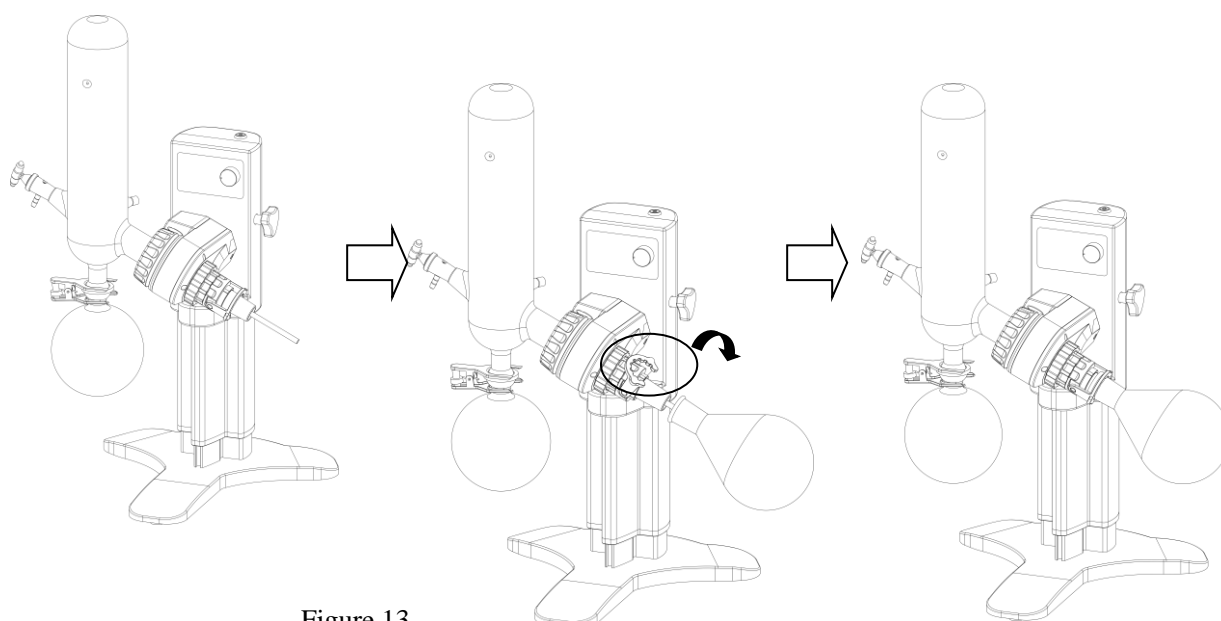

Figure 13
(5) Insert the PTFE tube (Figure 7 (8)) into the lower port of the feeding valve (Figure 7 (7)), and then insert it from the side interface of the condenser, adjust the angle of the feeding valve to keep it sealed. Use a stainless steel clip (Figure 7 (9)) to fix the collection bottle (Figure 7 (10)) to the lower interface of the condenser (Figure 7 (6)); use a bottle ejection clip (Figure 7 (16)) to buckle down to hold the sample bottle (Figure 7 (14)) Fix it on the lower interface of the glass rotating shaft (Figure 7 (15)), hold the eject ring clockwise to lock the bottle nut (Figure 7 (17)). (See Figure 13)